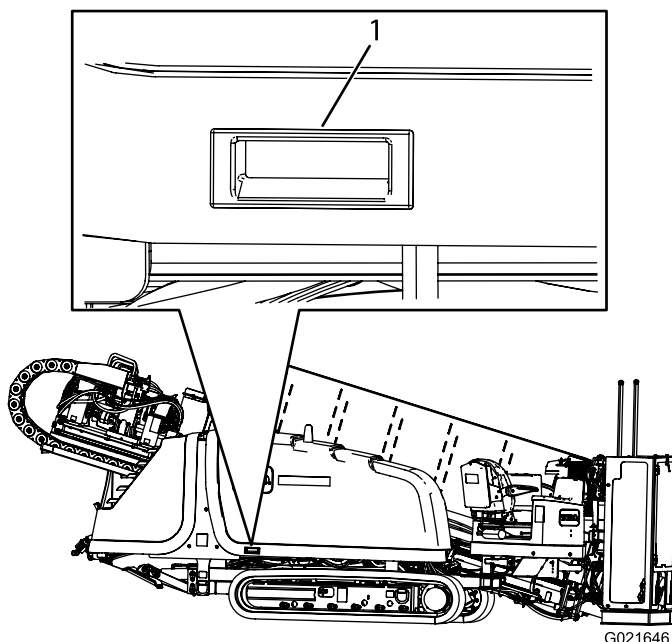

Figure 94
3. Lift up on the handle as shown in Figure 94.